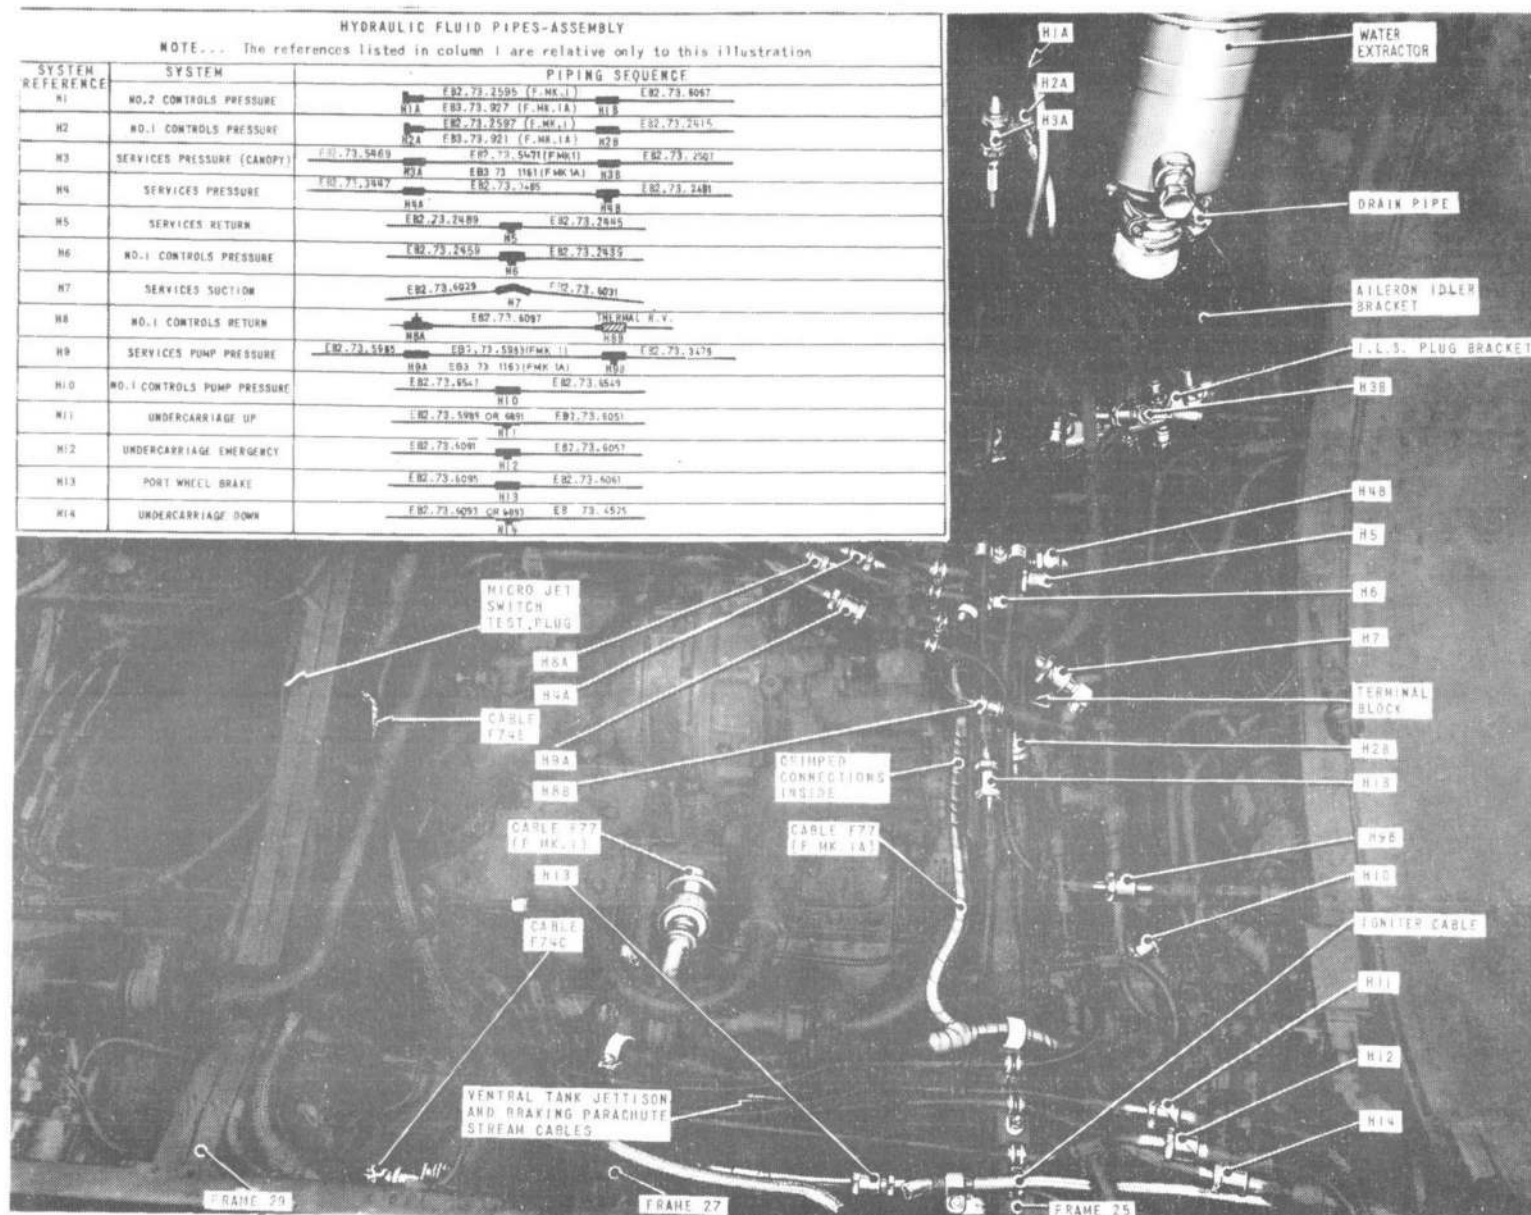
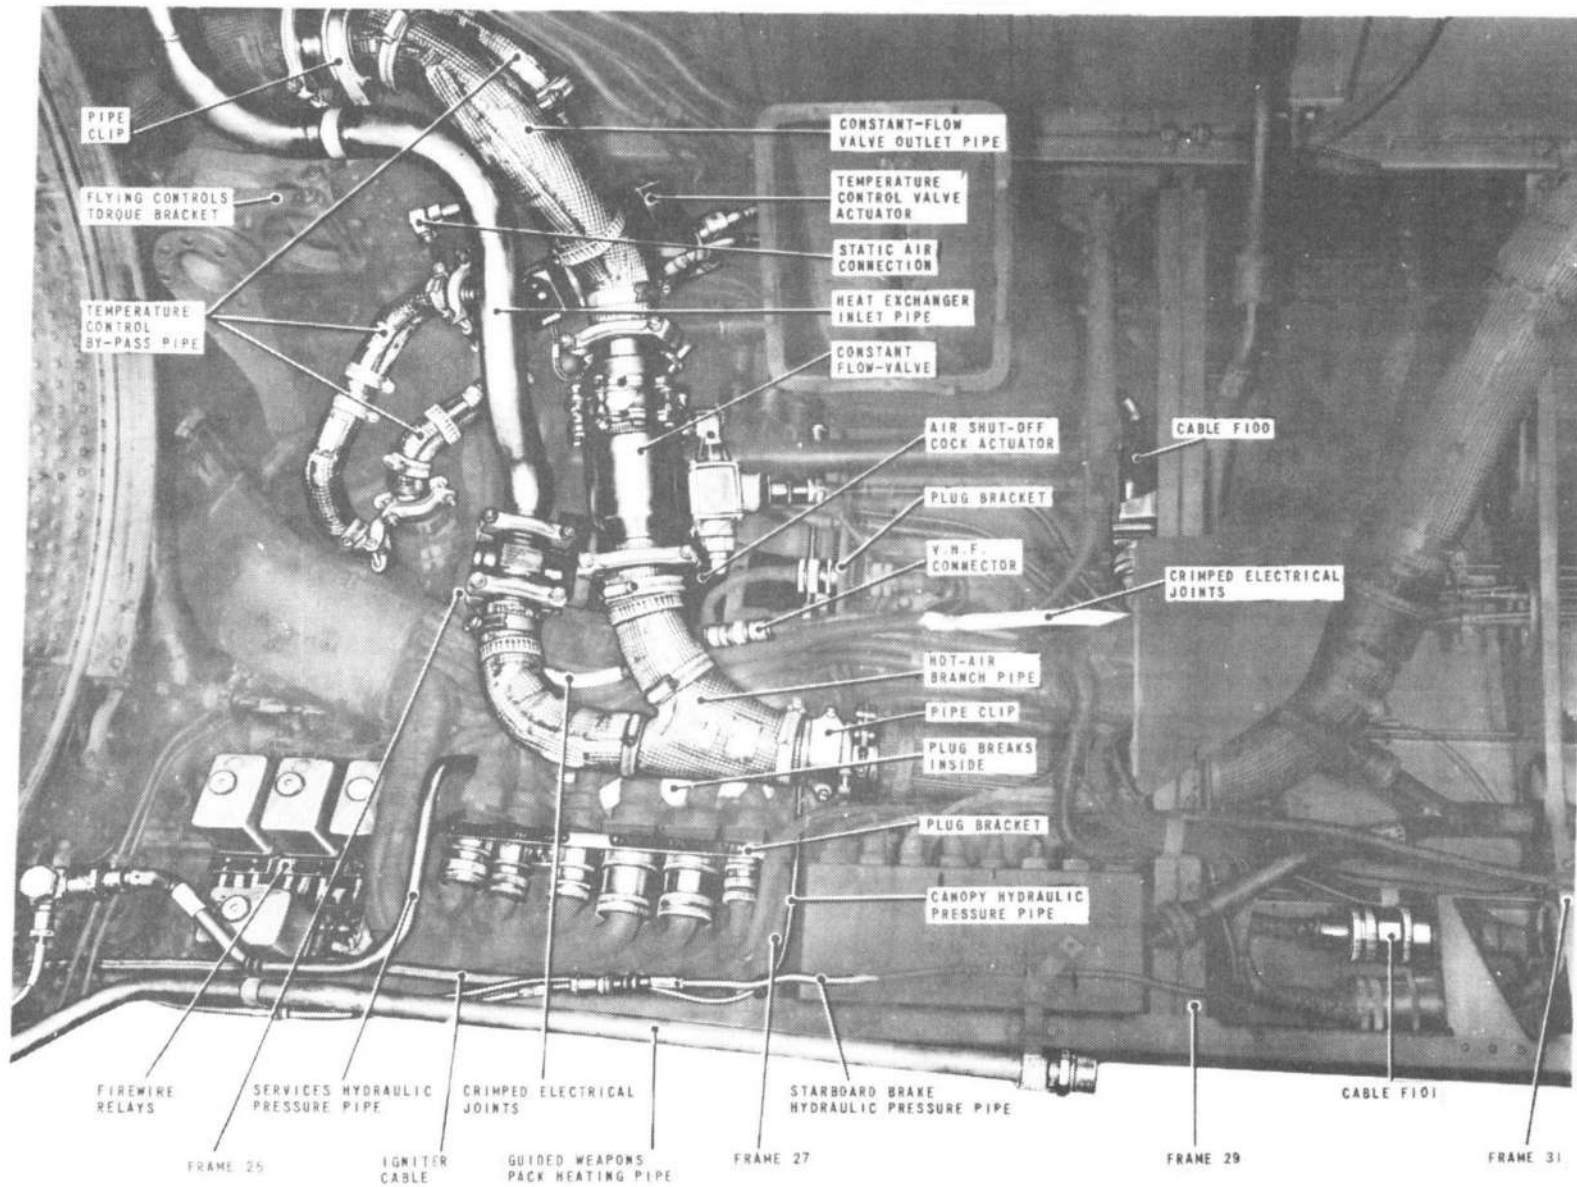

FIG.4. EQUIPMENT AT TRANSPORT JOINT (PORT)
FIG. 5. EQUIPMENT AT TRANSPORT JOINT (STARBOARD)
(b) I.L.S. connectors 4A, 5A, 13A, 14A, 10A, 9A and 8A from the plug bracket on the aileron idler bracket (fig.4).
(c) Electrical cable 2R255 from the terminal block on frame 25 (fig.4).
(12) Inside No.1 engine bay, on main-plane spar 1 and at the port side of the transport joint, disconnect the hydraulic unions and unclip the pipes indicated (fig.4).
(13) Disconnect the following (fig.4):-
- (14) Disconnect the ventral tank jettisoning and braking parachute stream cables above the hatch longeron near frame 25, and release them from the fairlead on the frame (fig.4).
- (15) Remove the following air system components (fig.5):-
- (16) Disconnect the following electrical and wireless components on the starboard side of No. 1 engine bay (fig.5):-
(g) Cable assembly F142 from the air shut-off cock actuator (fig.5).
(a) The short bent static pipe aft of the flying controls torque brackets (fig.5).
(21) Remove the Firewire relays (fig.5) from their bases. Unbolt the bases, without detaching the cables, and identify them according to their positions engraved on the mounting plate. Secure the bases to some convenient point in the rear fuselage with adhesive tape ensuring that their weight is not supported by the cables.
(22) Remove the Firewire relays mounting plate.
(a) Disconnect the drainpipe (*fig. 4*).
(1) Refer to para.13 and carry out operations (1) to (6) and (9) to (12) inclusive.
(2) Remove the U.H.F. stand-by T/R, the V.P. R/F unit, the V.P. A/F unit and the U.H.F. T/R unit from the spine compartment behind the cockpit.
(3) Remove the Type 100A inverter.
(4) Cut the cores of electrical cable F77 at the crimped joints on frame 25A, at the port side of No.1 engine bay (*fig.4*), after ensuring correct core identification for subsequent reassembly.
(5) Refer to para.13 and carry out operations (13) (b, c and d), (14) and (15).
(6) Remove the forward section of the starboard external duct and expose the crimped connections on all cable assemblies. Sever the cores as close to the crimps as possible after ensuring positive identification for subsequent reassembly.
(7) Disconnect cable assembly F252 at the crimped connections near frame 25 at the starboard side of No.1 engine bay.
(8) Disconnect cable F28 from the terminal block between frames 27 and 29 (starboard).
(9) Disconnect cables F131A and F131B from the temperature control valve actuator (fig.5).
(10) Disconnect cable F142 from the air shut-off cock actuator (fig.5).
(11) Unclip the starboard igniter plug cable at frame 22 and between frames 23 and 25.
(12) Disconnect I.F.F. connectors IF2 and IF4 at the in-line crimps at frame 25 (starboard).
(13) Disconnect A.I. cables 3A17 and 3A19 at the in-line crimps at frame 25 (starboard).
(14) Refer to para.13 and carry out operations (17) to (26) inclusive.
(15) Unclip the U.H.F. Homer port and starboard azimuth aerial connectors inside the front fuselage spine compartment, remove the fairlead on frame 25 and withdraw the connectors from the front fuselage.
(16) Refer to para.13 and carry out operations (27) to (38) inclusive.